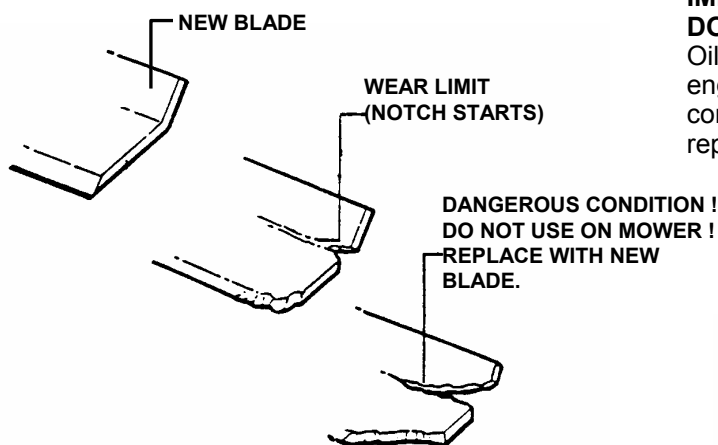

FIGURE 4.1
1. Inspect blade frequently for signs of excessive wear or damage. See Figure 4.1.
2. Replace the blade if it is badly chipped, bent, noticeably out of balance or has cracks or notch in either tip. See Figure 4.1 & 4.1A. Replace with new blade.